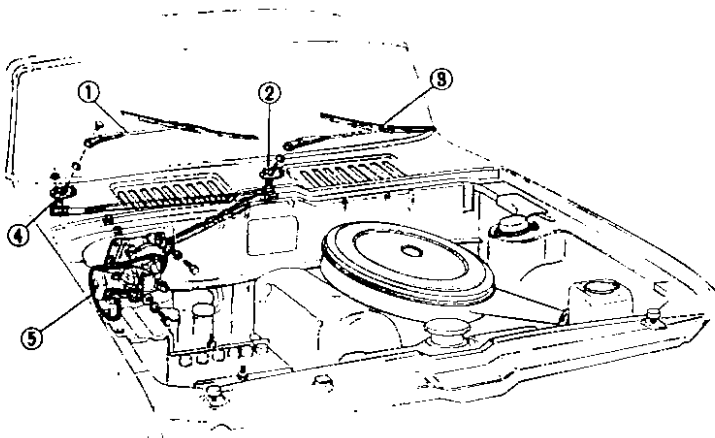

Fig. M.34 Wiper motor and linkage.
1. Remove the connector plug from the motor (See Fig.M. 34.).